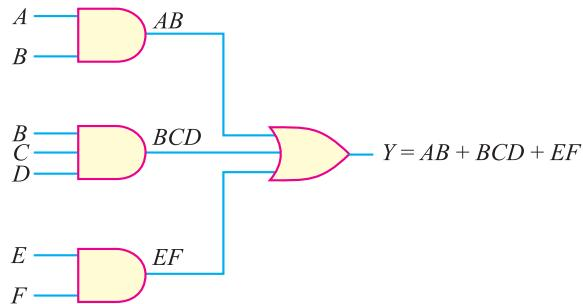

Fig. 26.35
**(iii)** Fig. 26.35 shows a logic circuit consisting of three AND gates and one OR gate. There are six input variables viz.  $A, B, C, D, E$  and  $F$ .